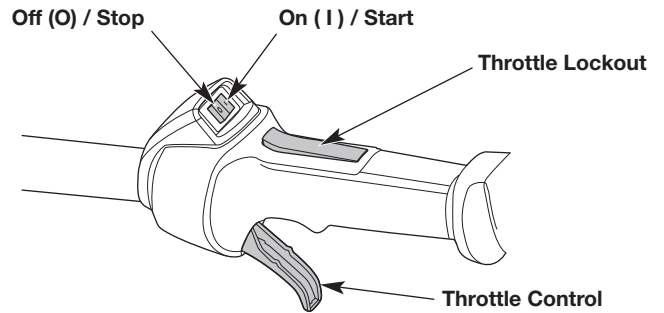

Fig. 8
**NOTE:** There is no need to turn the unit on. The On/Off switch is in the ON ( I ) position at all times (Fig. 8).
5. Press and hold the throttle lockout (Fig. 8). Squeeze and hold the throttle control (Fig. 8).
2. Press and hold the On/Off switch in the OFF (O) position until the engine comes to a complete stop (Fig. 8).
- NOTE:** There is no need to turn the unit on. The On/Off switch is in the ON (I) position at all times (Fig. 8).
6. Press and hold the throttle lockout (Fig. 8). Squeeze and hold the throttle control (Fig. 8).